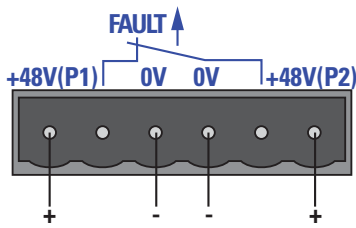

Figure 19: Connecting the PoE voltage at the 6-pin terminal block of the RS22/RS32 devices
- ▶ The signal contact (“FAULT”, for pin assignment of terminal block, see figure 19) monitors the functioning of the device, thus enabling remote diagnostics. You can specify the type of function monitoring in the Management.